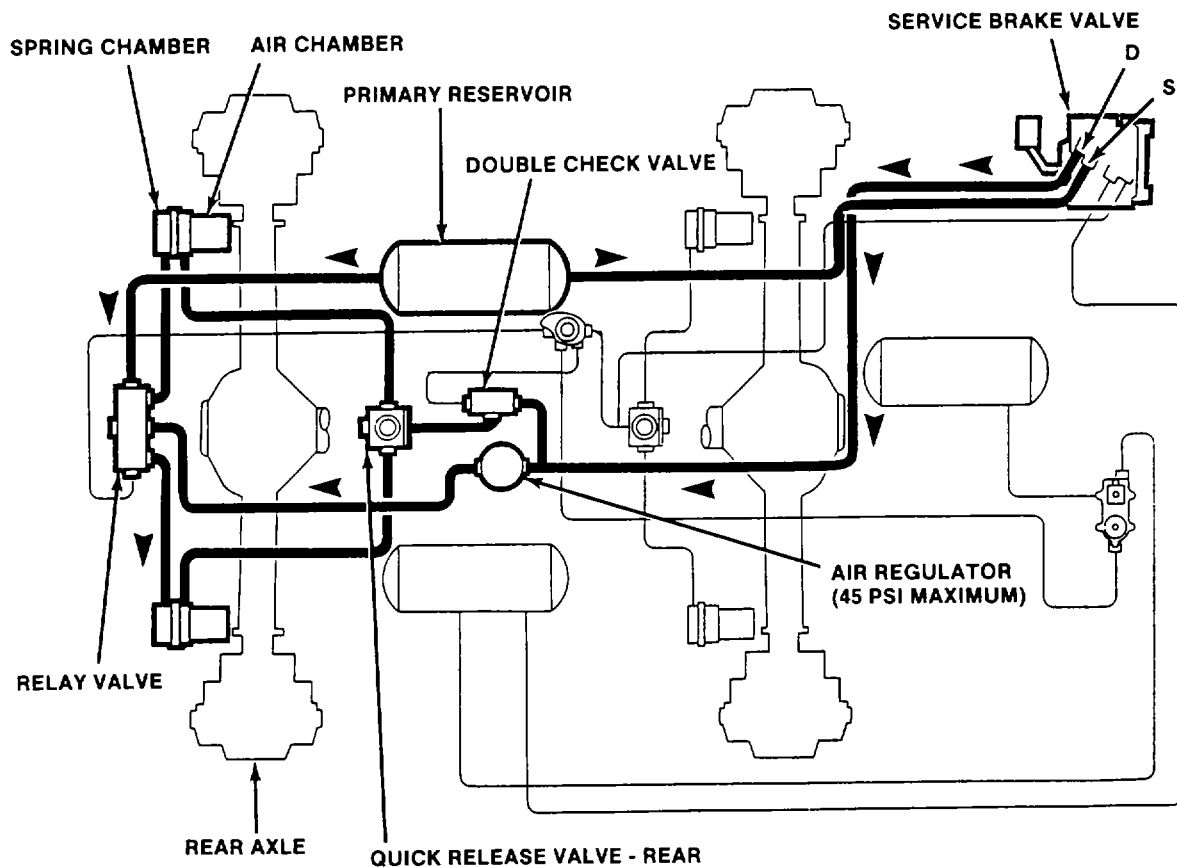

Figure 1-31. Rear Brake System - Normal Operation
(1) When the brake pedal is depressed, pilot pressure is supplied from the primary reservoir via the service brake valve and regulator to the relay valve, (see fig. 1-31). The pilot pressure opens the relay valve and allows brake application air from the primary reservoir to enter and pressurize the spring brake chambers. The combined force of air and spring pressure suppresses the parking brake release pressure in the opposing air chambers, (see para. 1-17 a.) and engages the brakes.
(2) To prevent excessive brake force, the continuously balanced pilot and spring chamber air pressures are regulated to a maximum 45 psi (see 310 kPa) Below this limit the pressures are infinitely controlled.
(3) When the brake pedal is released, the pilot pressure is exhausted. The relay valve shuts off the brake application air and vents the spring chambers to atmosphere. The opposing air chambers remain pressurized and thus disengage the brakes.
(4) To prevent jamming of the brakes if the service brakes are applied while the parking brakes are engaged, counteracting pressure is provided to the air chambers. This air pressure is provided via the double check valve and quick release valve simultaneously with the application of air pressure to the spring chambers.